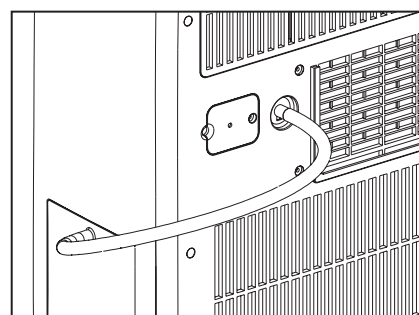

Fig. 5
- Remove the drain plug from the back of the unit and connect the drain hose, then connect the other end of the drain hose to the water tank as depicted in Fig.5. So the condensed water will flow into the internal tank through the drain hose.